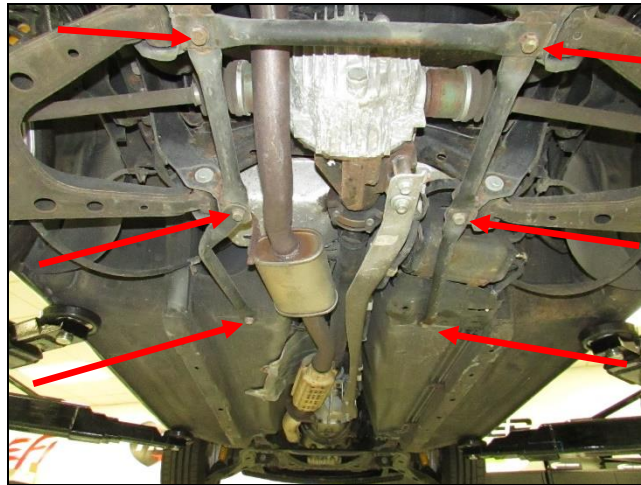

Figure 3
4. Remove (x6) 17mm head bolts and remove the brace (**Figure 3**).